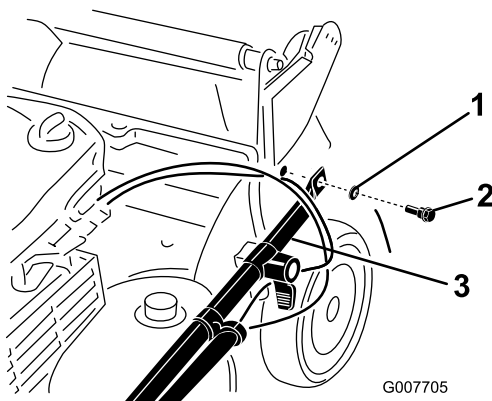

Figure 3
2. Attach the handle ends to the mower housing with 2 washers and 2 handle bolts (Figure 3), **but do not tighten the handle bolts.**
Important: Route the cables to the *outside* of the handle (Figure 3).